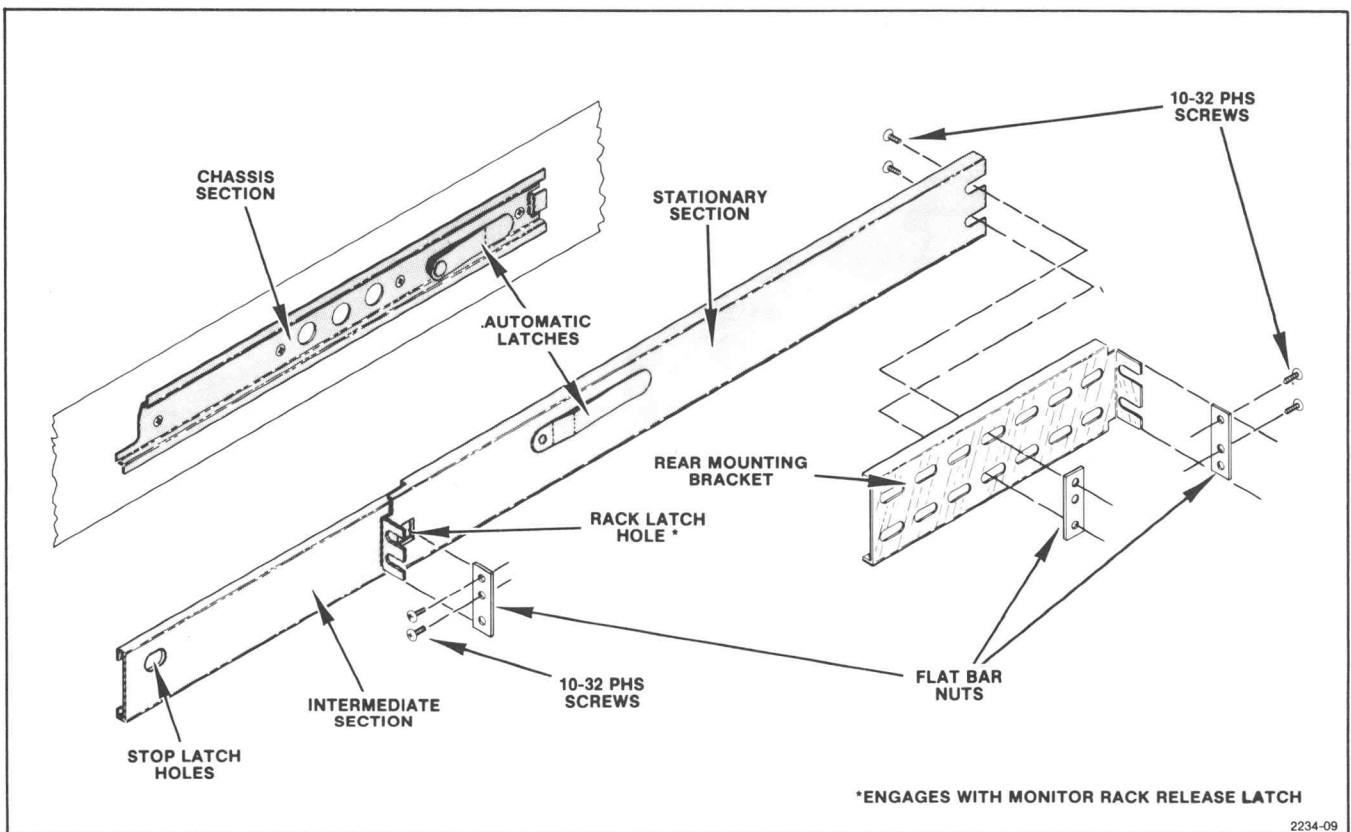

Fig. 2-15. Rackmounting Hardware.
*Because of the spring-latch feature, the 1450-1 cannot be racked in already installed stationary slide sections unless thumbscrew hold-downs are used. The slide tracks supplied with the 1450-1 are required to accommodate the spring latches. The new slides provide a cut-out in the stationary section to catch the shoulder of the spring-latch. See Fig. 2-15.*